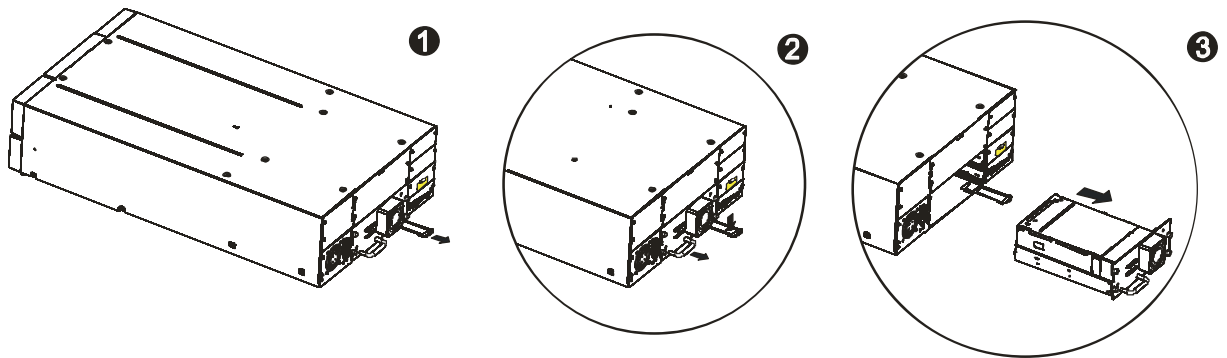

Figure 60 Tape drive removal
Before pulling the lower drive sled please pull forward the product ID slide located below the drive sled (see Figure 60 detail 1). Otherwise the slide or the attached label could be damaged.
2. Pull straight back on the tape drive handle to remove it from the Library. Take care to slightly push down the product ID slide so it does not interfere with the drive sled (see Figure 60).